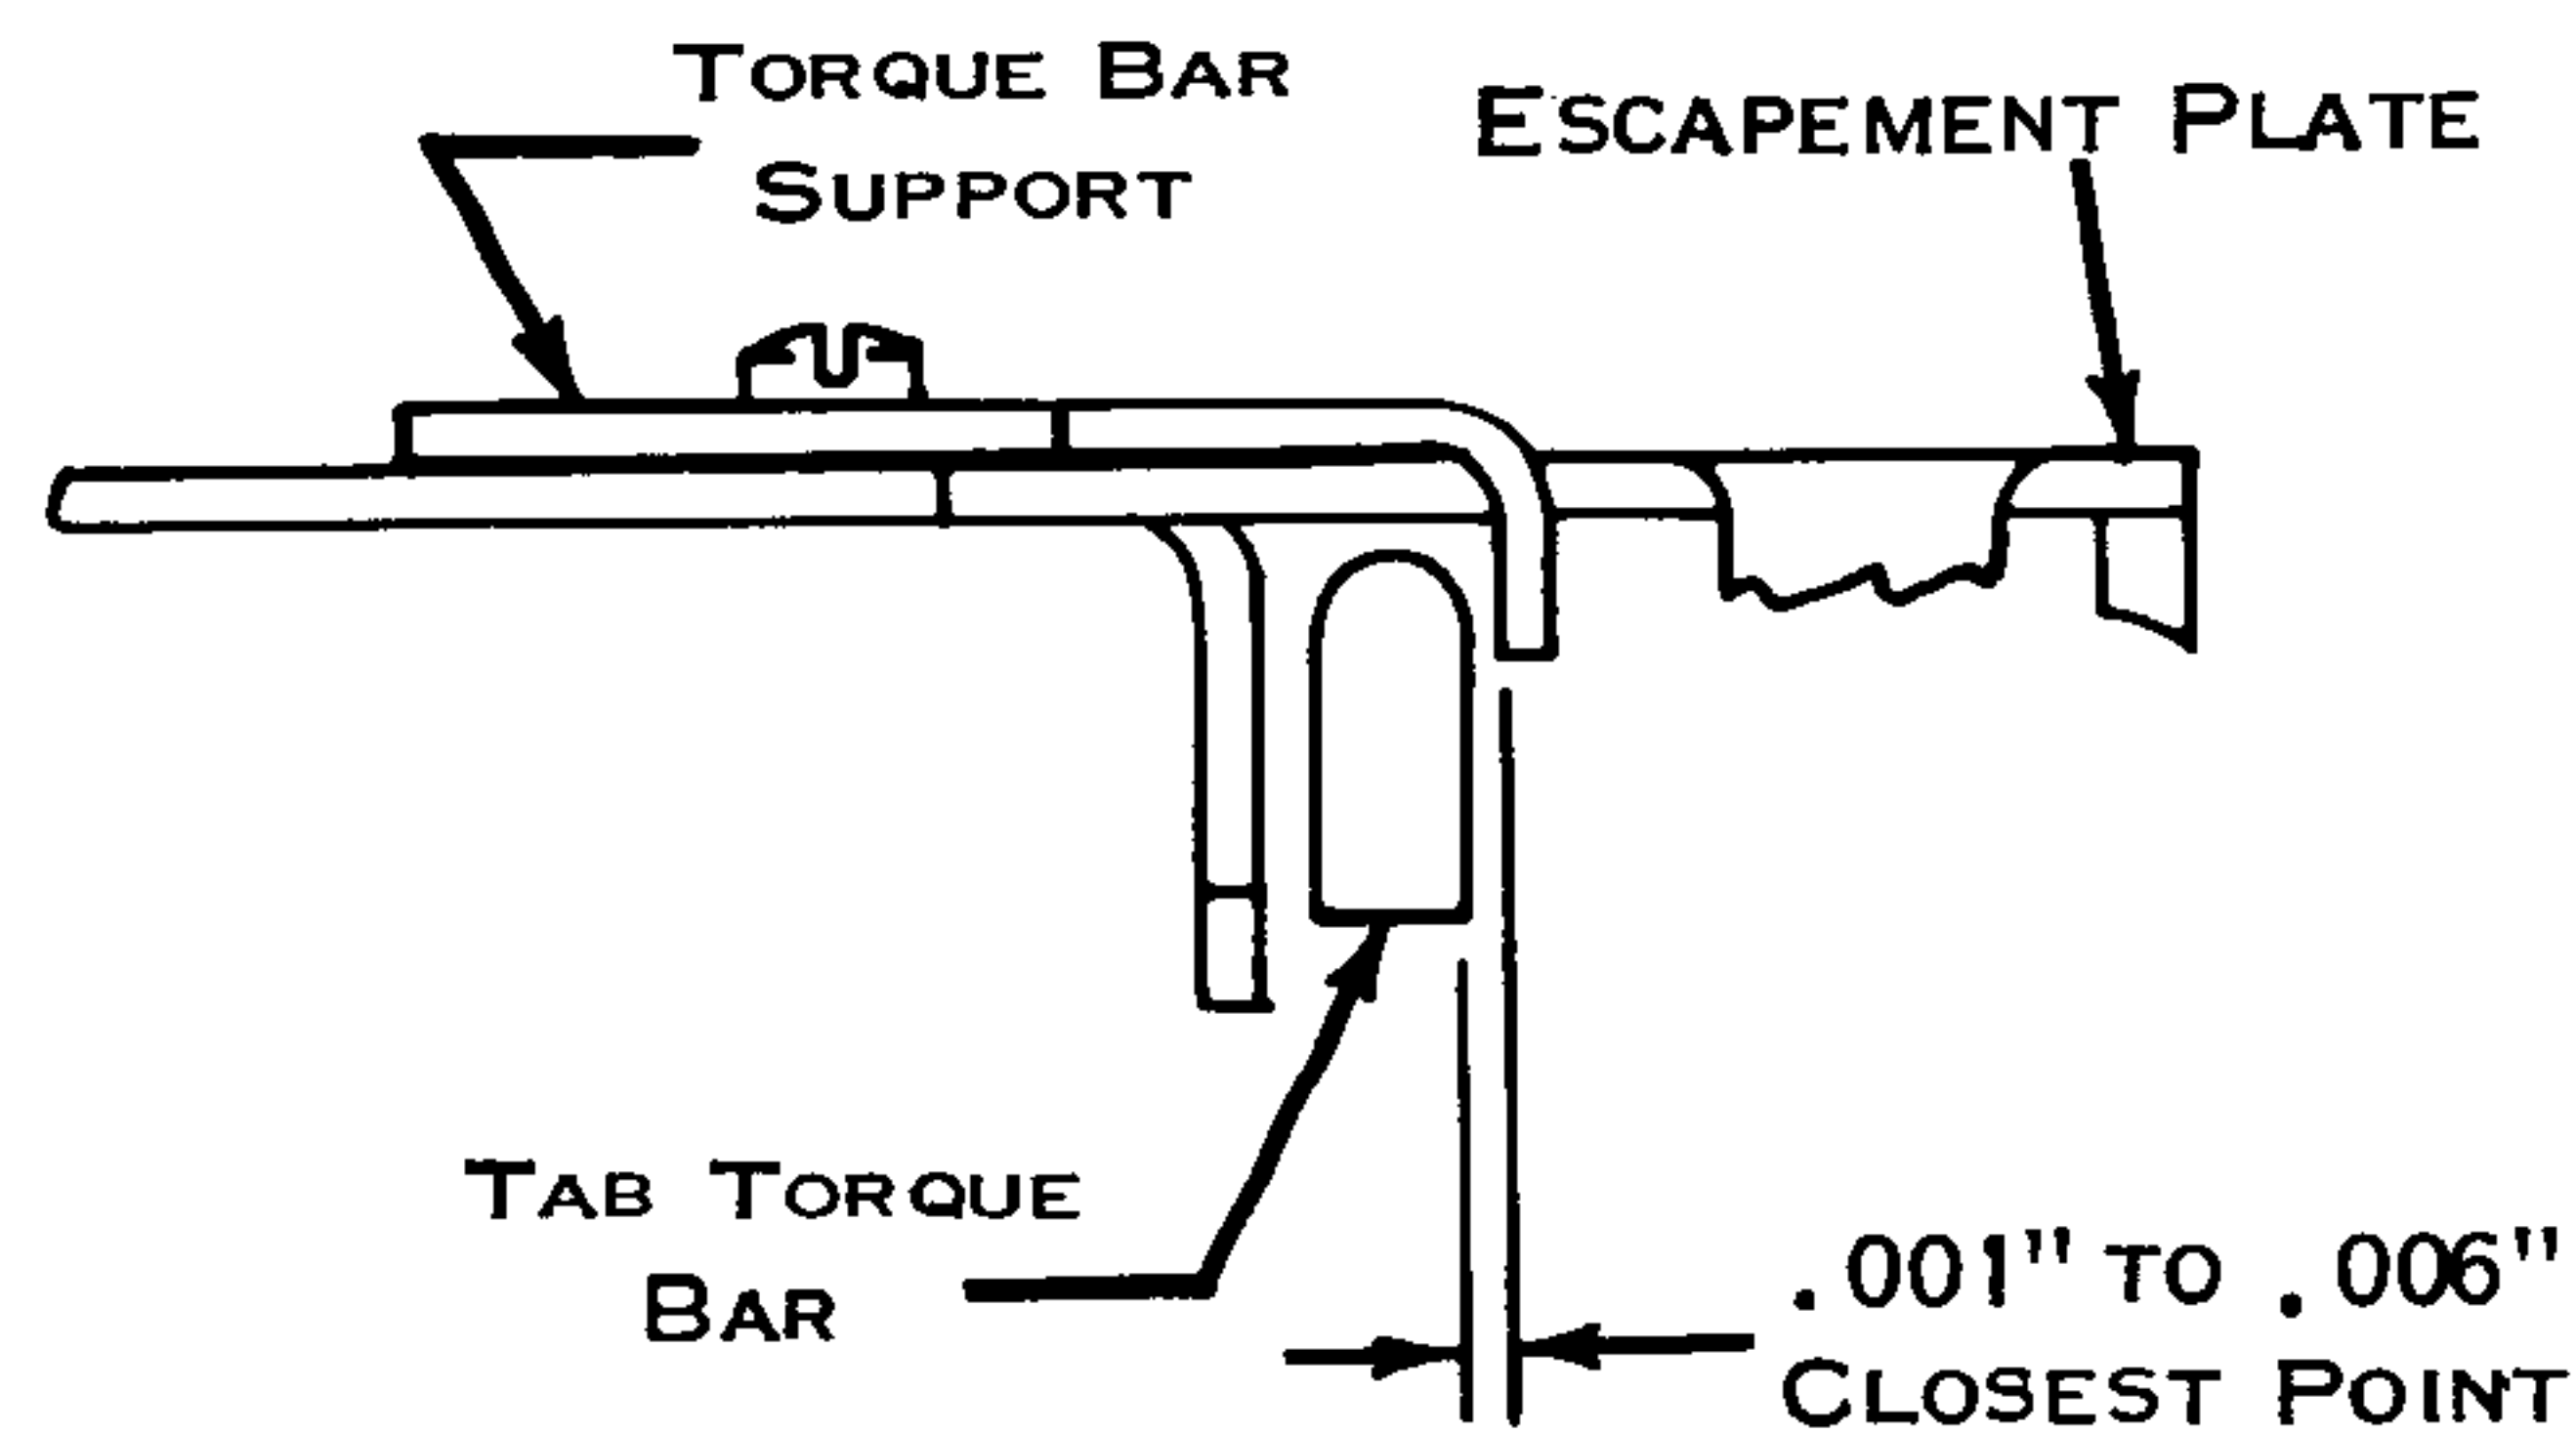

Figure 172. Tab Torque Bar Support
9. Tab Torque Bar Support (Fig. 172) - With the tab torque bar at rest, position the torque bar support (relative to the escapement plate) to clear the torque bar by .001" to .006".